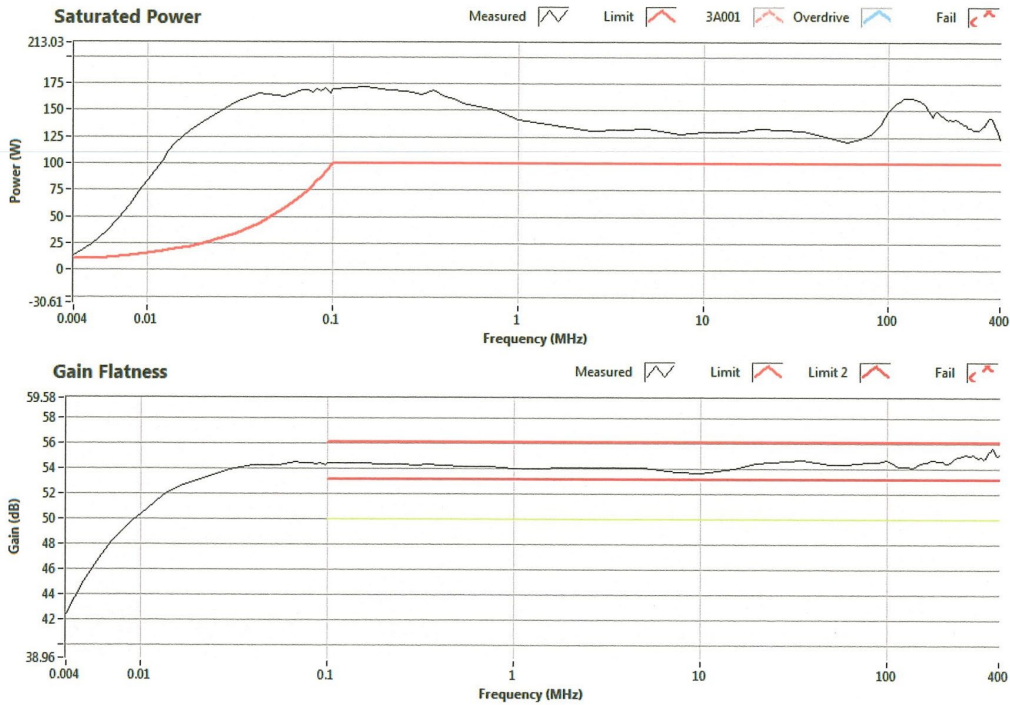

Figure 4-1. Saturated Power and Typical Response at -20 dBm Input
1. The Model 100A400AM20's saturated power and typical gain response at -20 dBm input is shown in Figure 4-1. The actual gain may vary from that shown in Figure 4-1 but should be ≥ 50 dB.